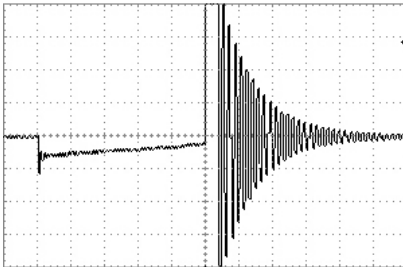

Fig.8
- ◆ **Dmp Off** (no damping) (see Fig.8);